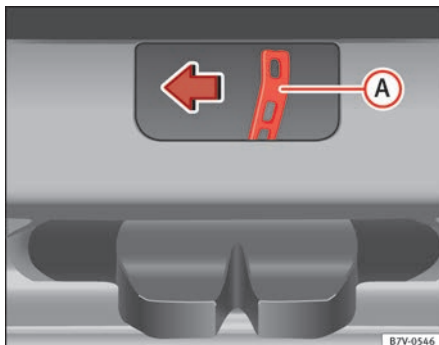

Fig. 192 From the luggage compartment: Manually unlocking the tailgate.
- Push the release lever ⇒ fig. 192 **A** in the direction of the arrow to unlock the tailgate.